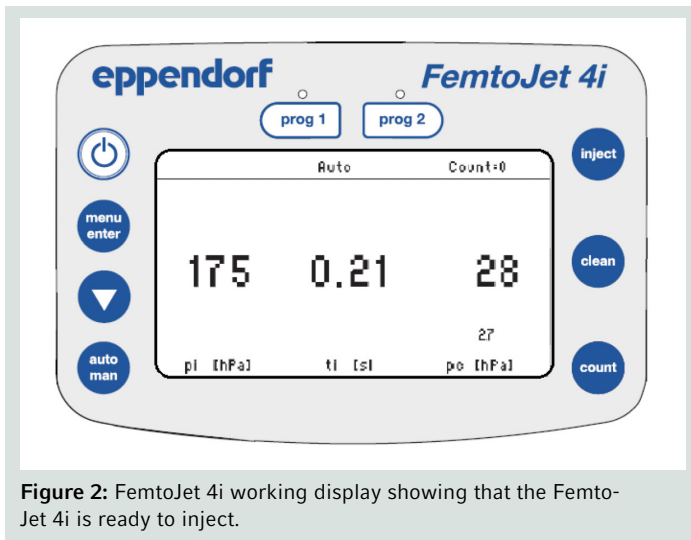

Figure 2: FemtoJet 4i working display showing that the FemtoJet 4i is ready to inject.
- A.** Before turning on the FemtoJet 4i disconnect the injection tube from the front of the FemtoJet 4i. Then switch on the power. The internal compressor will engage and will build up enough pressure to be ready to use in less than two minutes. When the working display (see Figure 2) appears on the FemtoJet 4i this indicates that the FemtoJet 4i is ready and there is sufficient pressure to inject.